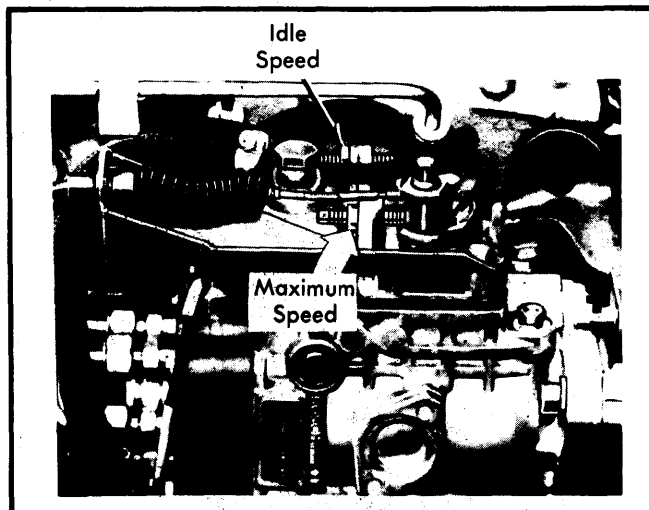

Fig. 18. Adjusting Idle and Maximum Speeds (Audi Vehicles)
2) Connect VW 1367 tester or use Siemens 451 according to instructions. Adjust speed to 720-880 RPM by loosening lock nut, and turning adjusting screw in to raise idle speed and out to lower idle speed. Retighten lock nut. See Fig. 18.
Adjust idle speed to proper setting and then open throttle fully. Maximum speed for Audi should be 5330-5450 RPM; for Volkswagen, 5500-5600 RPM. To adjust, loosen lock nut and turn screw out to raise maximum speed and in to lower it. See Figs 18 and 19. Tighten lock nut when adjustment is completed. Seal lock nut and screw with paint.